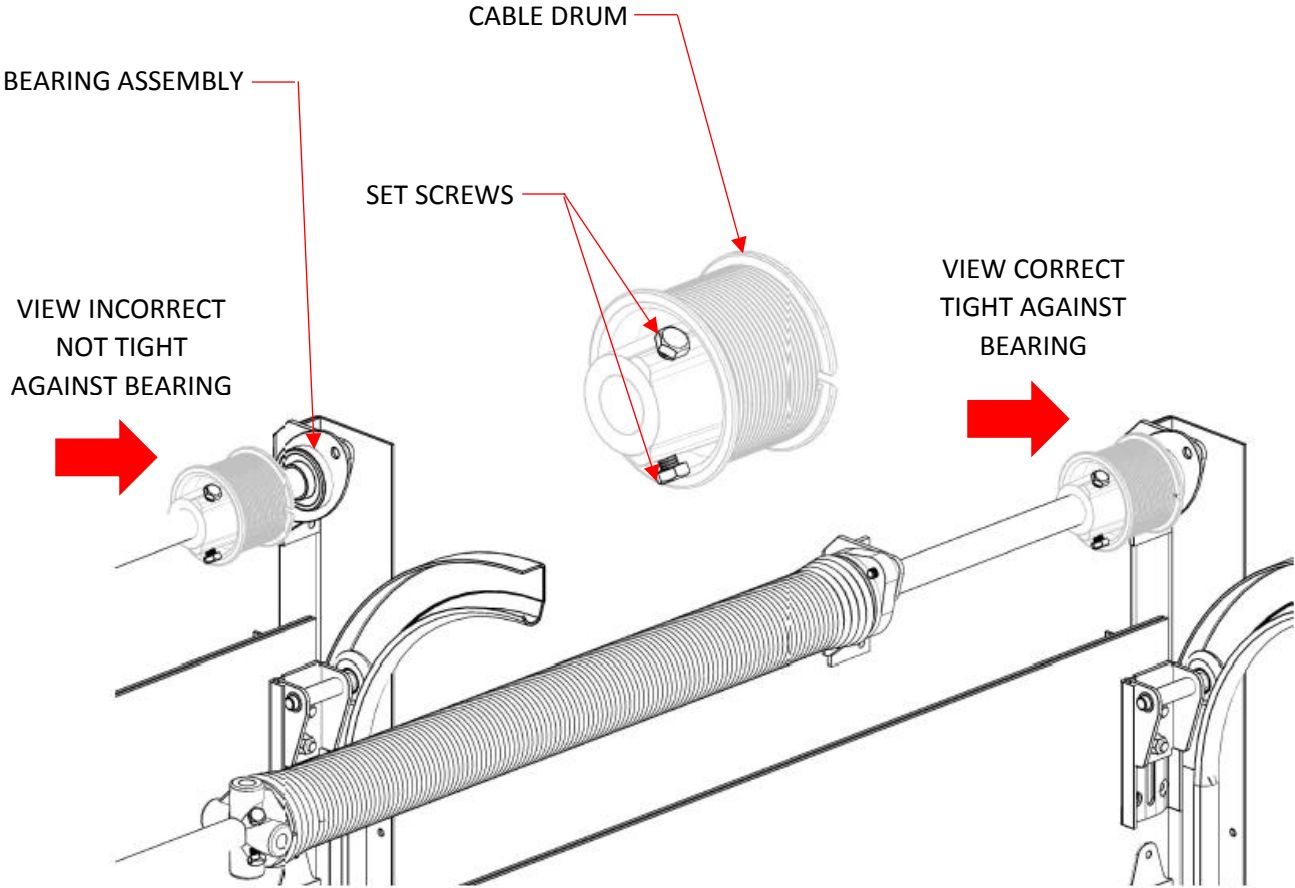

FIGURE 5
1. Are the cable drums tight against the counterbalance shaft bearings, the set screws properly tightened, and both cables are tight and have equal tension? (See Figure 5).